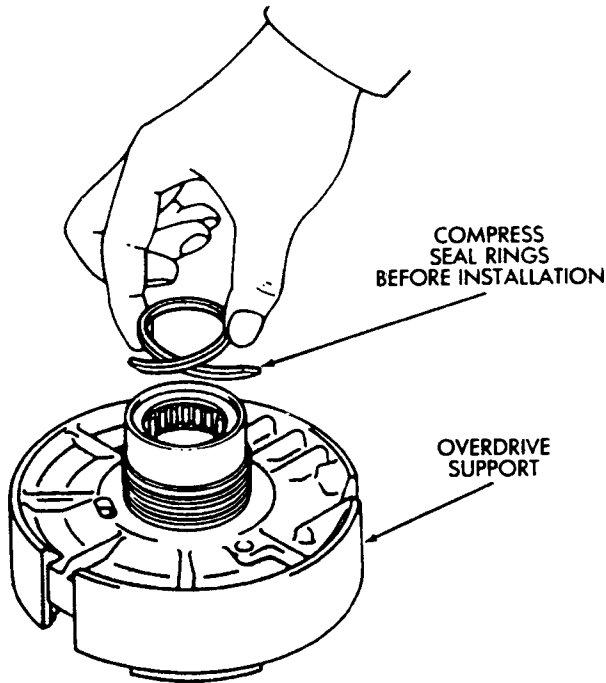

Fig. 8 Installing Support Seal Rings
(1) Lubricate new support seal rings. Then compress rings and install them on support (Fig. 8).